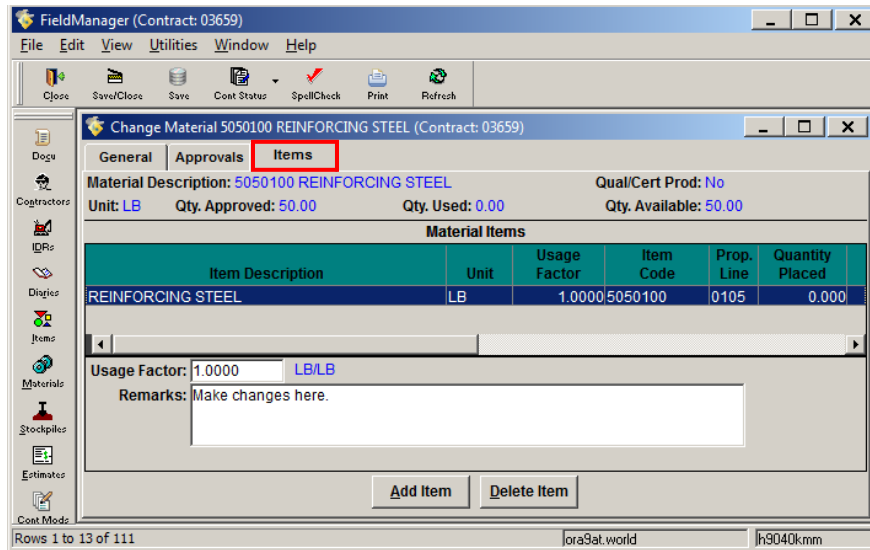

Figure 6-18. Change Material Window – Items Tab
1. Click on the **Items** tab (Figure 6-18).